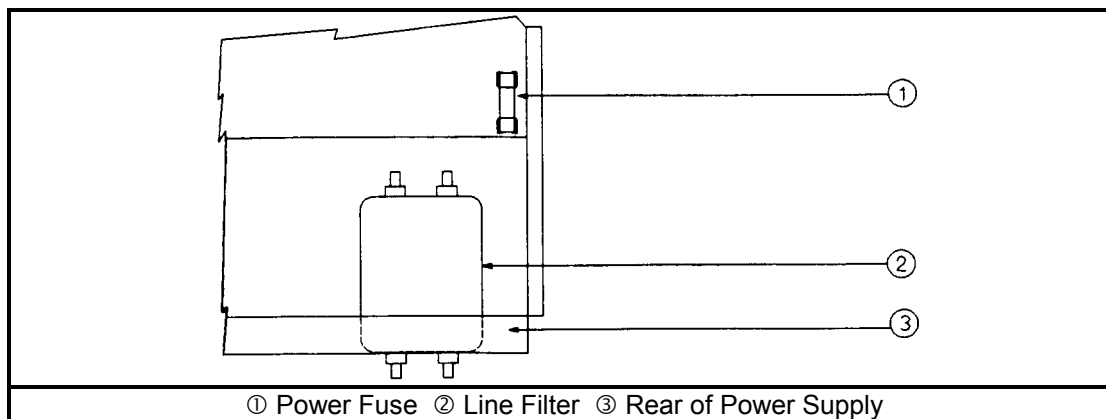

Figure 3-1. Series 667xA Line Fuse
- c. Slide the dustcover back far enough to expose the line fuse (1, Figure 3-1).